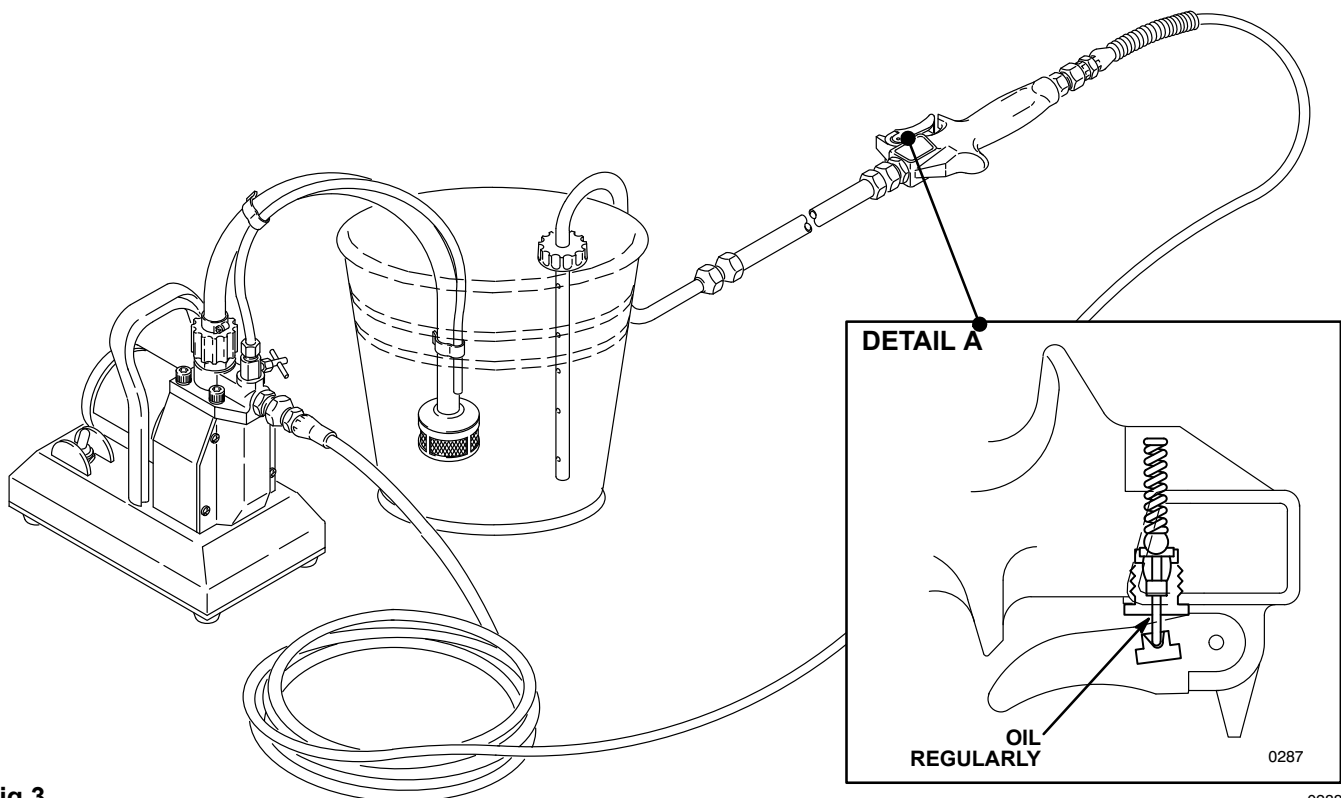

Fig 3
3. Put the suction tube in a pail of warm, soapy water. Hold the roller frame over the paint pail, turn on the system, and trigger the roller valve to drain and save the paint in the hoses. See Fig 3. Release the trigger and shut off the pump as soon as all the paint is drained. This avoids contaminating the paint with the flushing water.
10. Oil the needle in the roller valve and trigger the valve a few times to distribute the oil. See Detail A, Fig 3.